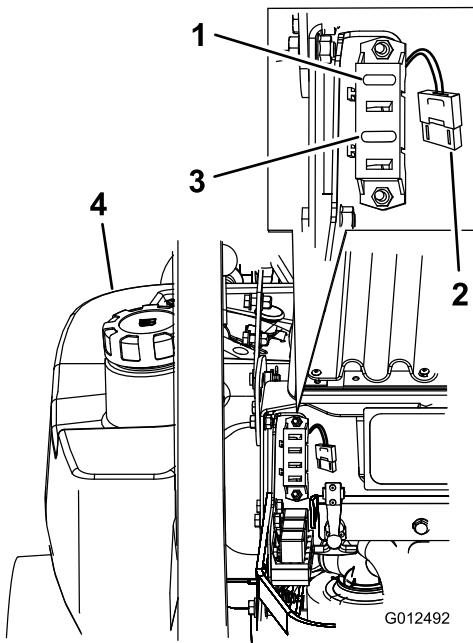

Figure 48
1. Unlatch the engine hood and raise the engine hood to gain access to fuse holder (Figure 48).
3. Install a new fuse (Figure 48).